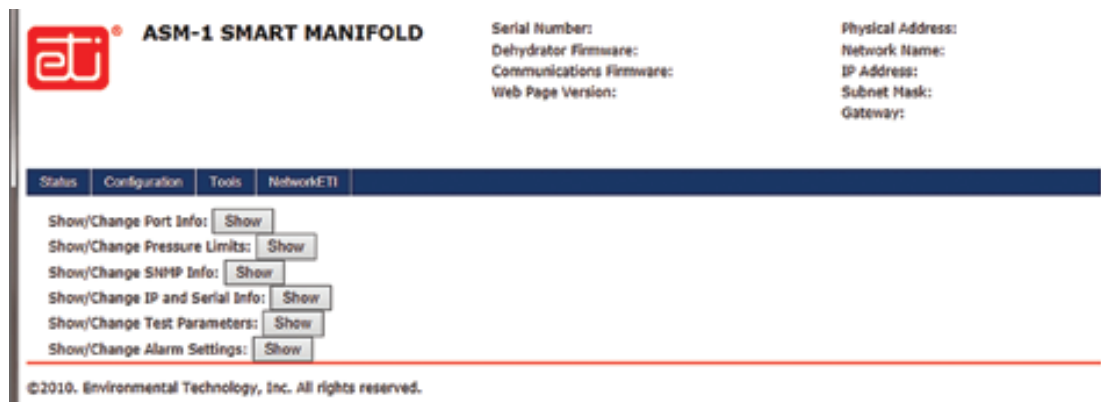

FIGURE 18. Configuration Page.
2. From the Main Page, click the Configuration tab, opening the Configuration page (Figure 18).